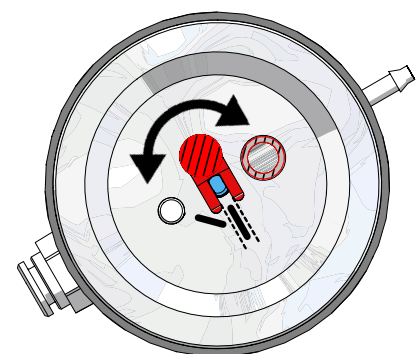

Fig. 12
- ⇒ The dosing nozzle must be adjusted with blasting tanks of 25 - 70 µm (Fig. 12)!